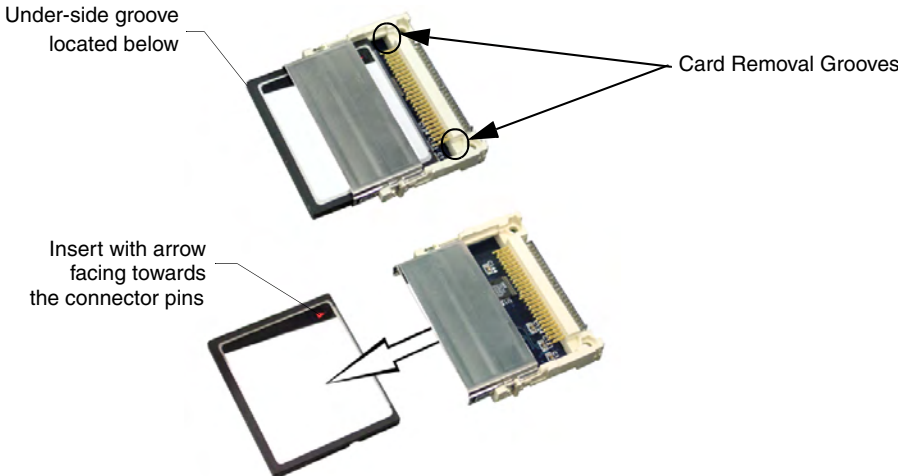

FIG. 18 Removing the Compact Flash card
- 6. Insert the upgrade card into the connector opening with the arrow facing towards the pins, then push it in firmly until the contact pins are completely inside the flash card and securely attached to the connector (FIG. 18).